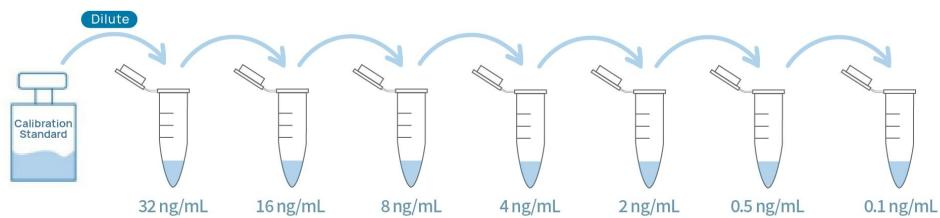

Figure 3. Graphic scheme of DNase I Calibration Standard Solution preparation
- Prepare DNase I Calibration Standard Solutions as indicated in Fig 3 and Table 3.